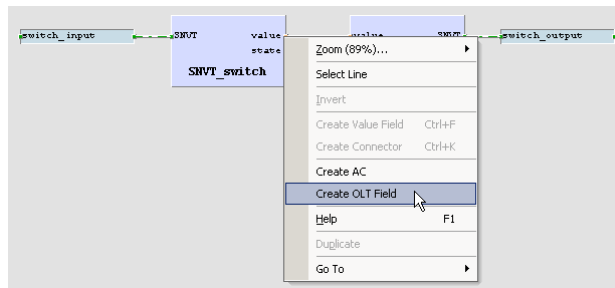

Figure 8: Create online test fields
12. For later debugging, it is good practice to add online test fields to the drawing, to display the current value of the signals during online test. To do this, right-click on the value output of the left function block and select **Create OLT Field** from the context menu, as shown in Figure 8.